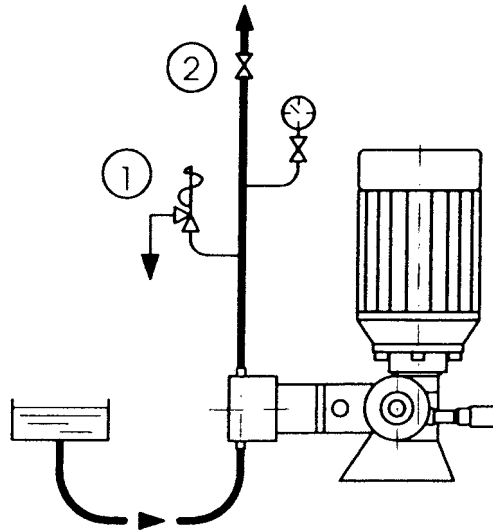

Fig .12
- Install the safety valve as shown below (Fig. 12).